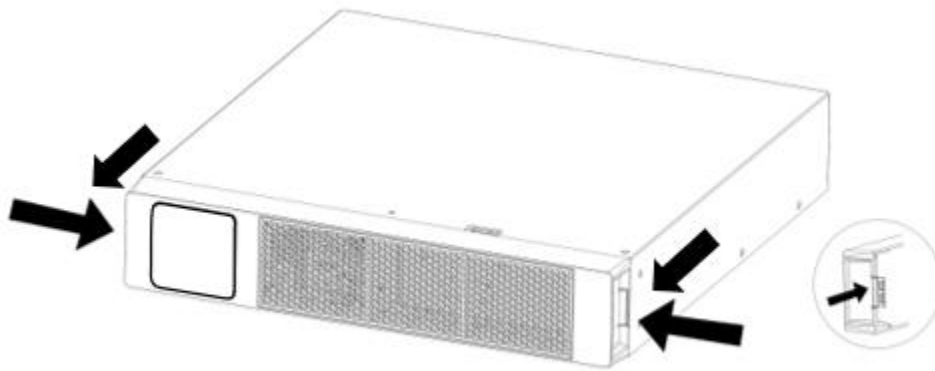

Figure 65: Press the Latches and Remove Faceplate
- 153. Press both sides of EBP faceplate until the latches release and remove (see Figure 65).